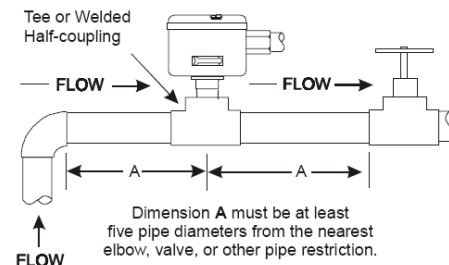

Figure 3 Typical Installation
- Mount the FS80-C in a section of pipe where there is a straight run of at least five pipe diameters on each side of the Flow Switch. See Figure 3.